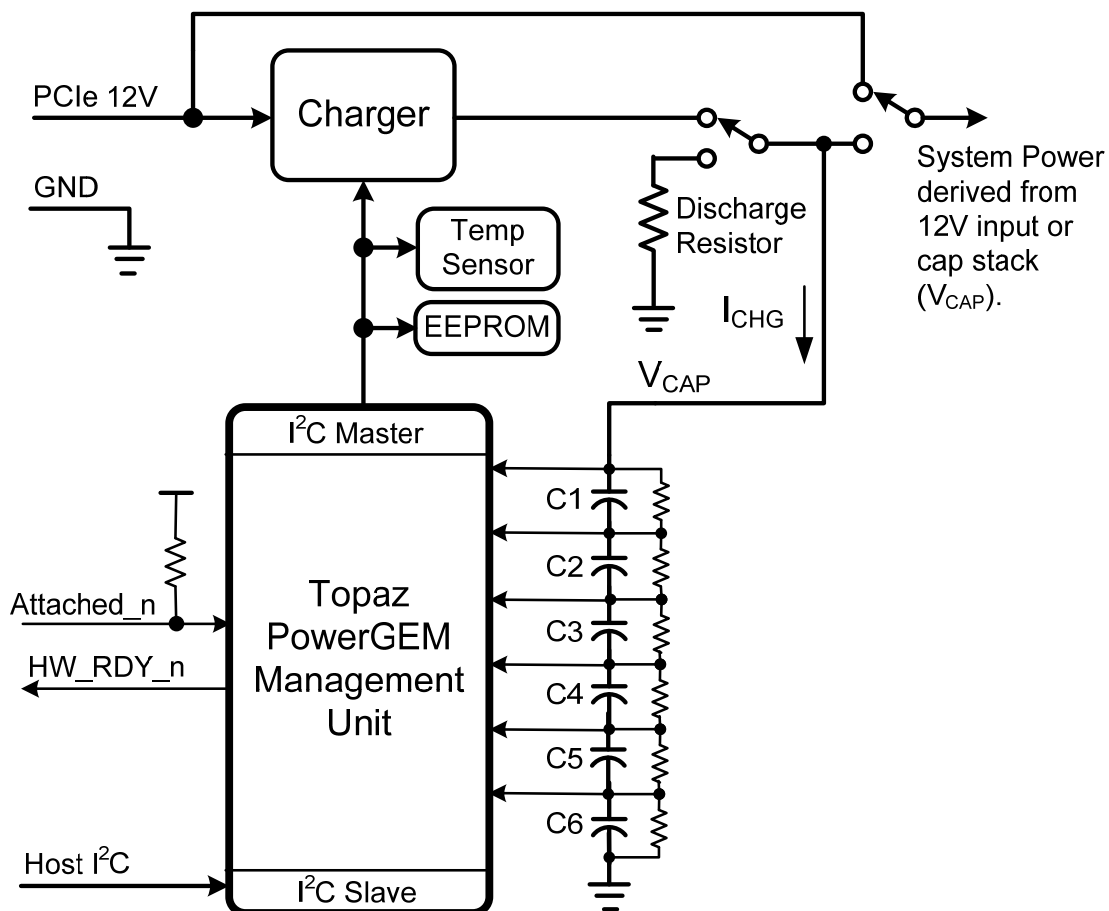

Figure 1. Simplified Topaz PowerGEM Diagram
- 1.2 The host controls Topaz by accessing a set of registers using the standard I²C bus, and conforming to a subset of the SMB protocol. Topaz uses ultracapacitors for energy storage because they offer high power density, quick charge time and long cycle life. Topaz uses six series/parallel-connected ultracapacitors as shown in Figure 1 below.